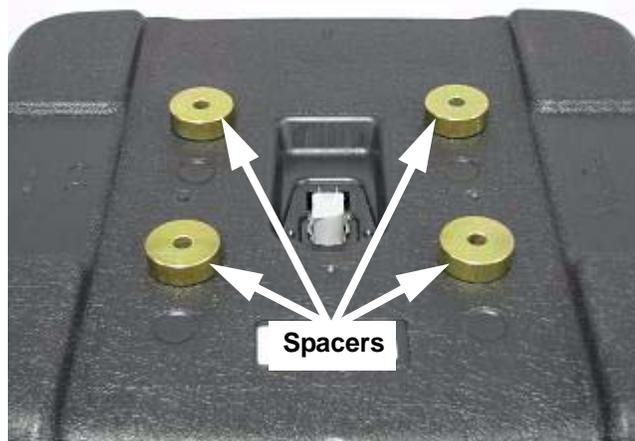

FIGURE 12
19. Place the four (4) Ref. #1 (750-03592) spacers over the seat bases four mounting holes. See Figure 12.